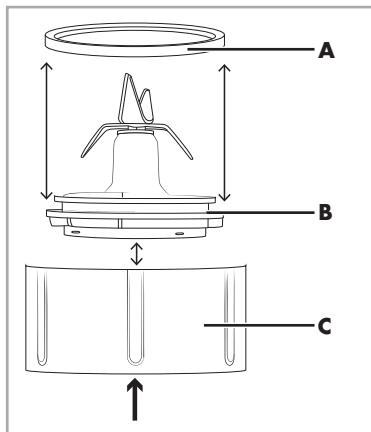

Fig.1: Blade holder ④
- Wipe the base ⑤ with a damp cloth. For stubborn soiling use a mild detergent on the cloth. Wipe off any detergent residue using a cloth moistened with clean water.
- For thorough cleaning, disassemble the blade holder ④ (see Fig. 1):